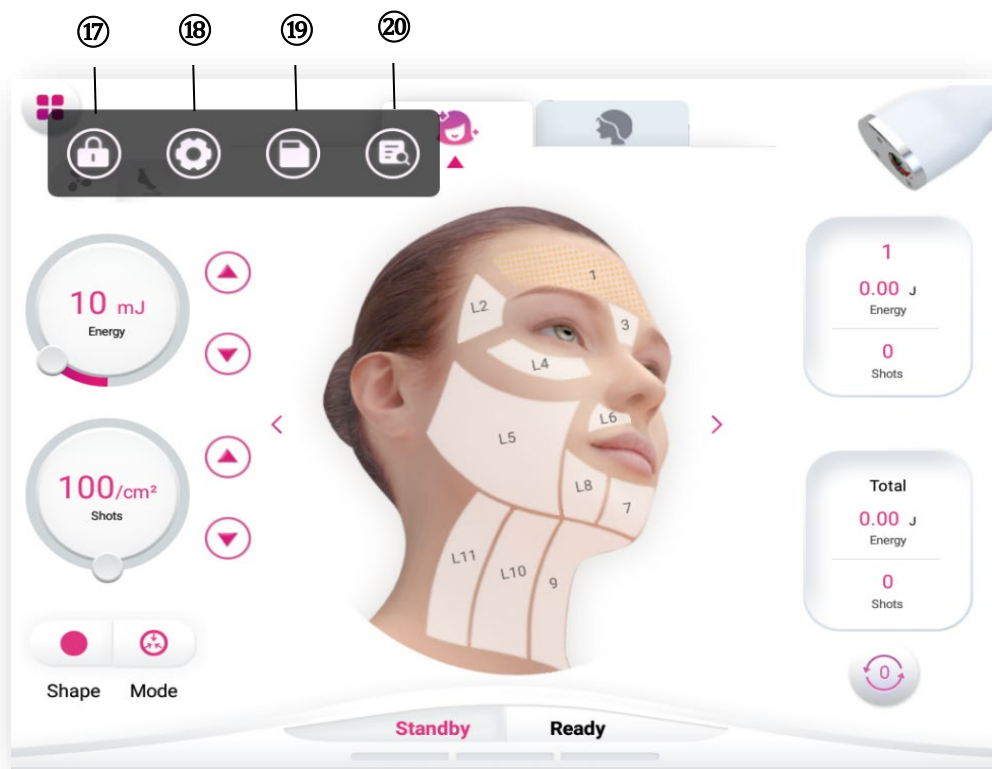

Figure 3-5-1
①**Menu:** Clicking on the menu, which has buttons for screen lock, settings, fast parameters setting and calling, as shown in Figure 3-5-1.
②③**Cryoshot[®] and footswitch:** display the status of the Cryoshot[®] and footswitch; highlighted Icon means connected.
④**Single pulse laser energy:** the maximum is 70mJ
⑤**Shots density:** 100-500 shots/cm²
⑥**Treatment shape:** circle, triangle, rectangle, hexagon, ellipse.
⑦**Scan mode:** horizontal, vertical, outward, inward, random, disorder.
⑩⑫**Shoot Mode:** Single mode or Repeat mode.